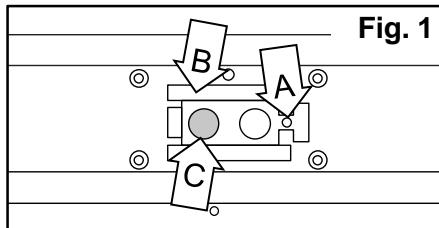

Fig. 1
1. Remove the **screw** (A) near the **access plate** (B) located on the back of the fixture. [Fig. 1]
2. Punch out one of the **knockouts** (C) in the **access plate** (B). [Fig. 1]
5. Place the **access plate** (B) back onto the fixture and secure it with the **screw** (A) that was previously removed. [Fig. 1]